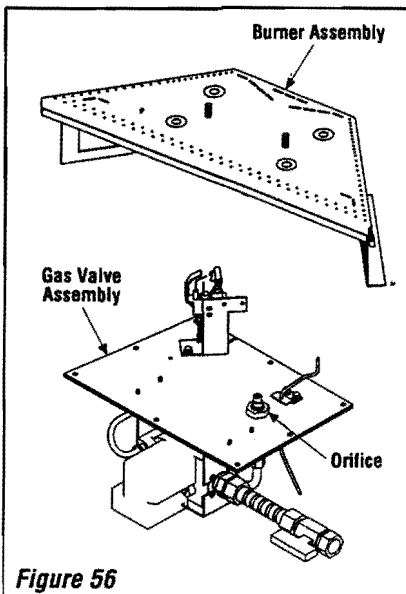

Figure 56
**Step 8.** (Refer to **Figure 56** on page 27)
Step 3. Refer to Figure 56.